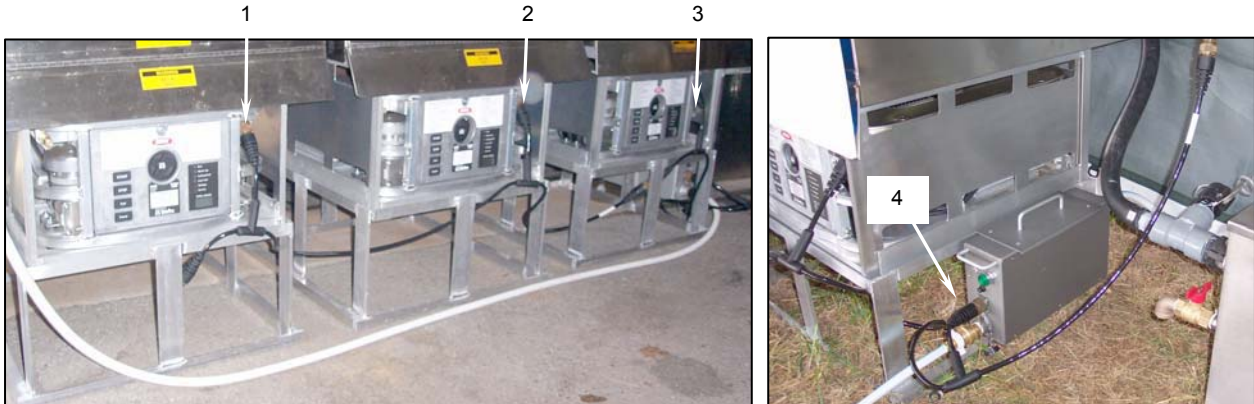

Figure 35. MBU 2-Branch Power Cable Removal.
- h. Disconnect the two 2-branch MBU power cables (**Figure 35, Item 1**) and (**Figure 35, Item 3**) and (**Figure 35, Item 3**) from the burner units and from the sink fill pump assembly (**Figure 35, Item 4**).